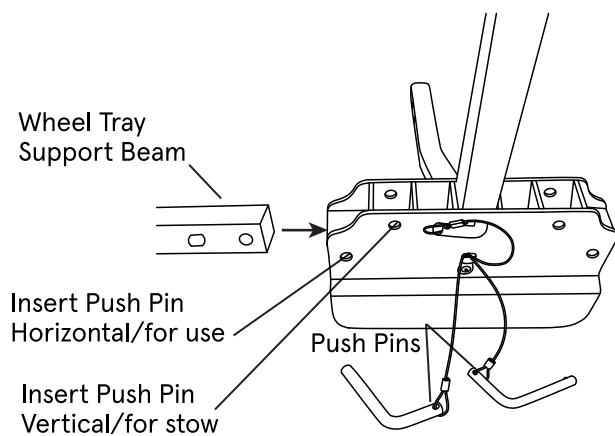

Fig. 5
1. Slide the two Wheel Tray Support Beams into the horizontal square slots, secure with Push Pins **(Fig. 5)**.